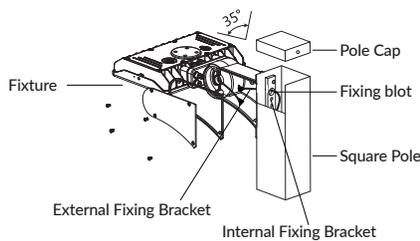

Figure 4-4
- Make appropriate wiring according to the “General Wiring Diagram” and tuck all the wire in the Pole Mount Bracket. Close the Side Lids and tighten it. (Figure 4-4)